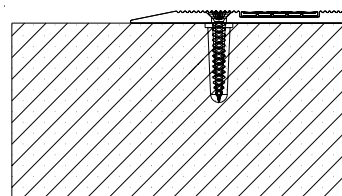
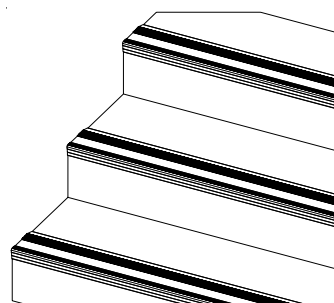

Figure 4
Figure 5
STEP 5. Place the nosing back into its installed position, aligning the anchor holes in the nosing with the anchor holes in the stair tread. Using the fasteners provided by the factory, attach the nosing to the stair tread (Figure 4 and Figure 5).